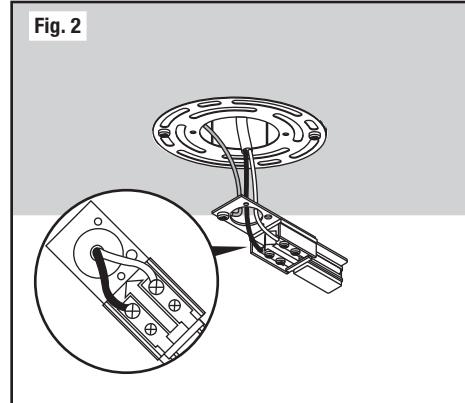

Fig. 2
6. Pass the black and white wires from the junction box through the center of the mounting bracket and through the back hole of the end feed connector. Attach the wires from the junction box to the terminal screws of the end feed connector (black wire to gold terminal, white wire to silver terminal). (Fig. 2)